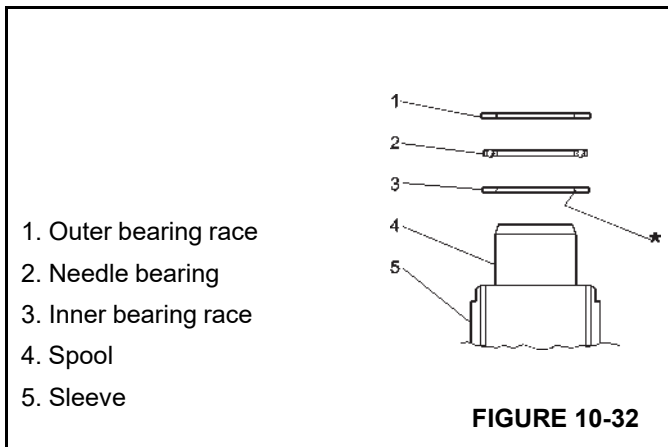
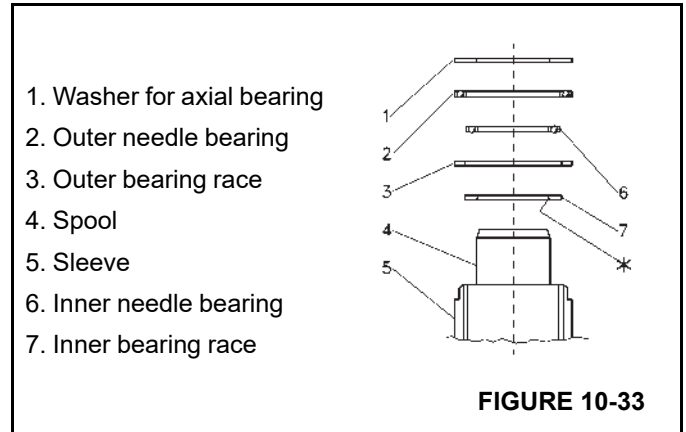

FIGURE 10-32
FIGURE 10-33
6. Fit bearing races and needle bearings as shown in Figure 10-32 or Figure 10-33.